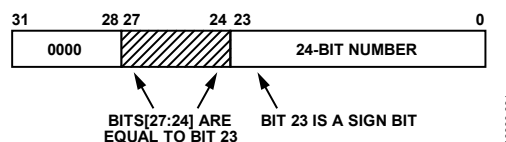

Figure 51. ZPSE Communication Format
The ADE7816 includes 8-, 16-, and 32-bit, signed and unsigned registers. All signed registers are in twos complement format. Some of the internal measurements are 24 bits long and have been extended to 32 bits prior to communication. This extension is accomplished in three different ways: sign extending (SE), zero padding (ZP), or zero padded and sign extended (ZPSE). When sign extending is used, the sign bit (Bit 23) of the twos complement signed number is duplicated in the uppermost byte prior to communication. Zero padding is achieved by writing 0s into the upper most byte prior to transmission. This format is used for unsigned numbers only. ZPSE formats are shown in Figure 51 and involve padding the most significant bits with 0s and sign extending Bits[27:24].